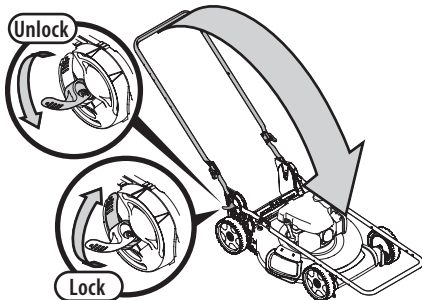

Figure 20
3. Unlock the two handle release levers (Figure 20, inset).
4. Fold the handle forward to the storage position (Figure 20). Do not crimp blade control cable or the drive control cable (if equipped) while lowering the handle.
5. Lock the two handle release levers (Figure 20, inset).